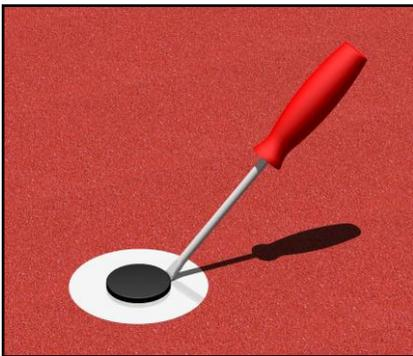

Figure 3
Remove the safety covers of the ground anchors with a screwdriver (Figure 3). The entire goal is to be adjusted via the ground anchors (1). We recommend the storage of the safety covers for a possible reuse later on.
Now the supplied screws M16x70 (5) and lock washers (7) can be bolted with the help of the provided socket key insertion. The flexibility of the slide blocks in the ground anchors (1) can balance dimension inaccuracies. The safety caps (figure 3) close the openings of the ground anchors (1).